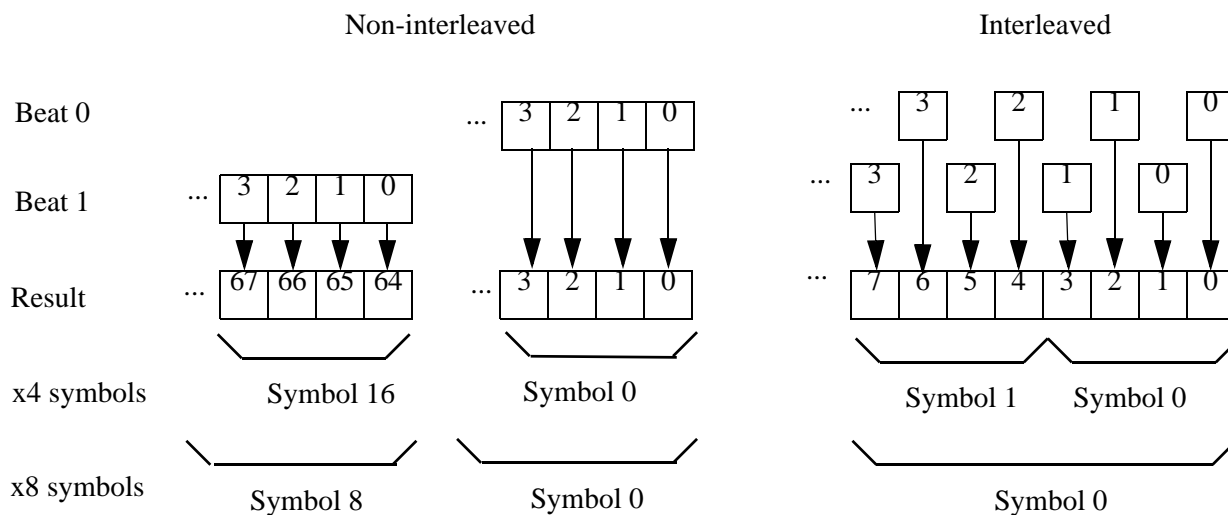

Figure 17: Example of Line Interleaving from x4 DRAM Using x4 and x8 ECC
- DRAM device width refers to the number of bits sourced simultaneously from a single memory chip. For example, a x4 device contributes 4-bits to the ECC word on each beat of data. In Figure 17, eighteen devices, representing one rank, contribute 72-bits on each beat.
- DCT data interleaving refers to the way bits from the two memory beats are organized to form an ECC word. When specified by D18F2x110[DctDatIntLv], even and odd bits from the two 72-bit beats can be interleaved to create the 144-bit ECC word as shown in Figure 17.